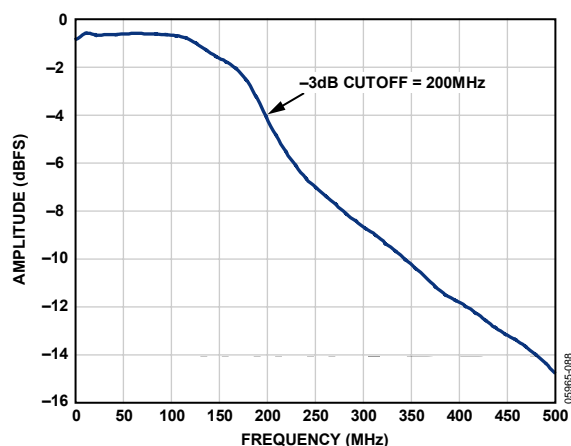

Figure 61. Evaluation Board Full-Power Bandwidth
- **AIN:** The evaluation board is set up for a transformer-coupled analog input with an optimum 50 Ω impedance match of 200 MHz of bandwidth (see Figure 61). For more bandwidth response, the differential capacitor across the analog inputs can be changed or removed. The common mode of the analog inputs is developed from the center tap of the transformer or AVDD_DUT/2.